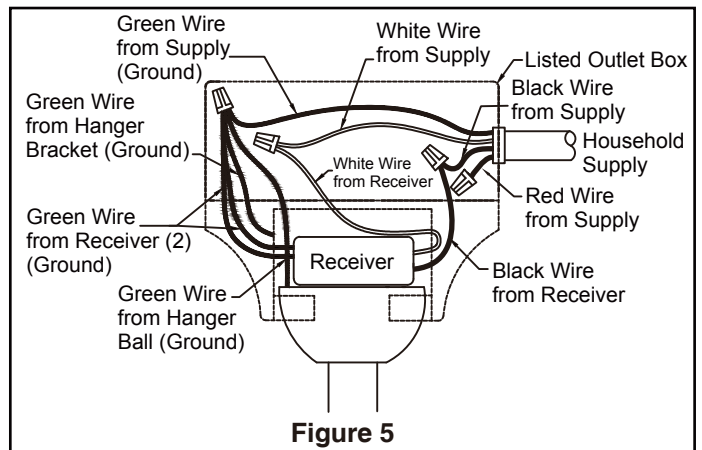

Figure 5
5. Route wires and safety cable through motor coupling cover, canopy screw cover and ceiling canopy. (Figure 5)
4. After connections have been made, put the white and green leads to one side and the black leads towards the other side, the connection should be turned upward and carefully push leads into the outlet box. The wires should be spread apart with the grounded conductor and the equipment-grounding conductor on one side of the outlet box and the ungrounded conductor on the other side. (Figure 5)
- 7.** To set the remote code same positions as the receiver with a small screwdriver or ball point pen (neither included), slide dip switches firmly up or down. (Figure 5)